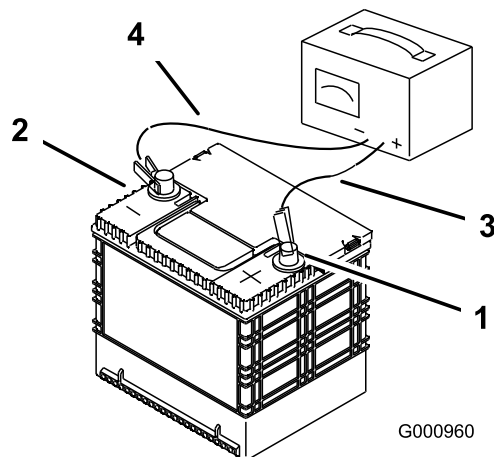

Figure 77
2. When the battery is fully charged, unplug the charger from the electrical outlet, then disconnect the charger leads from the battery posts (Figure 77).